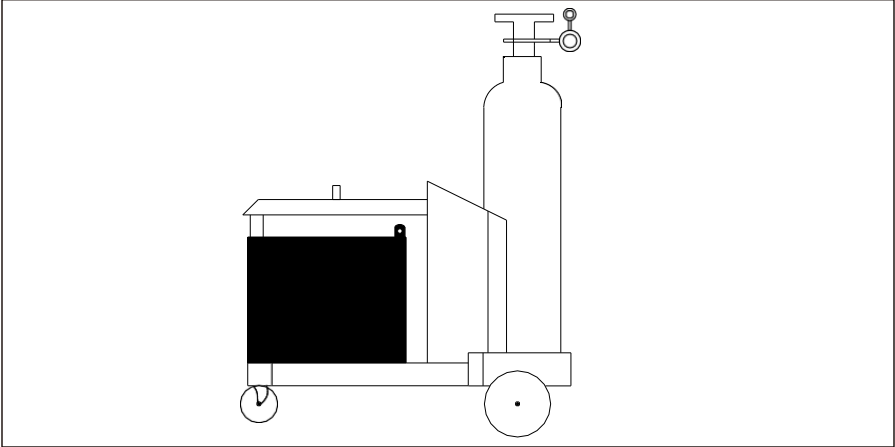

Fig. 3-5-2: Gas cylinder installation
- 1.If purchase the integrated machine (Fig. 3-5-2), stand the gas cylinder on the floor of therolley and secure by fixing the cylinder strap around a point in the top third of the cylinder-but never around the neck of the cylinder. If not integrated type, please keep the gas cylinder stand straight and fixed well, or use cylinder bracket to prevent it from falling down or inclining;